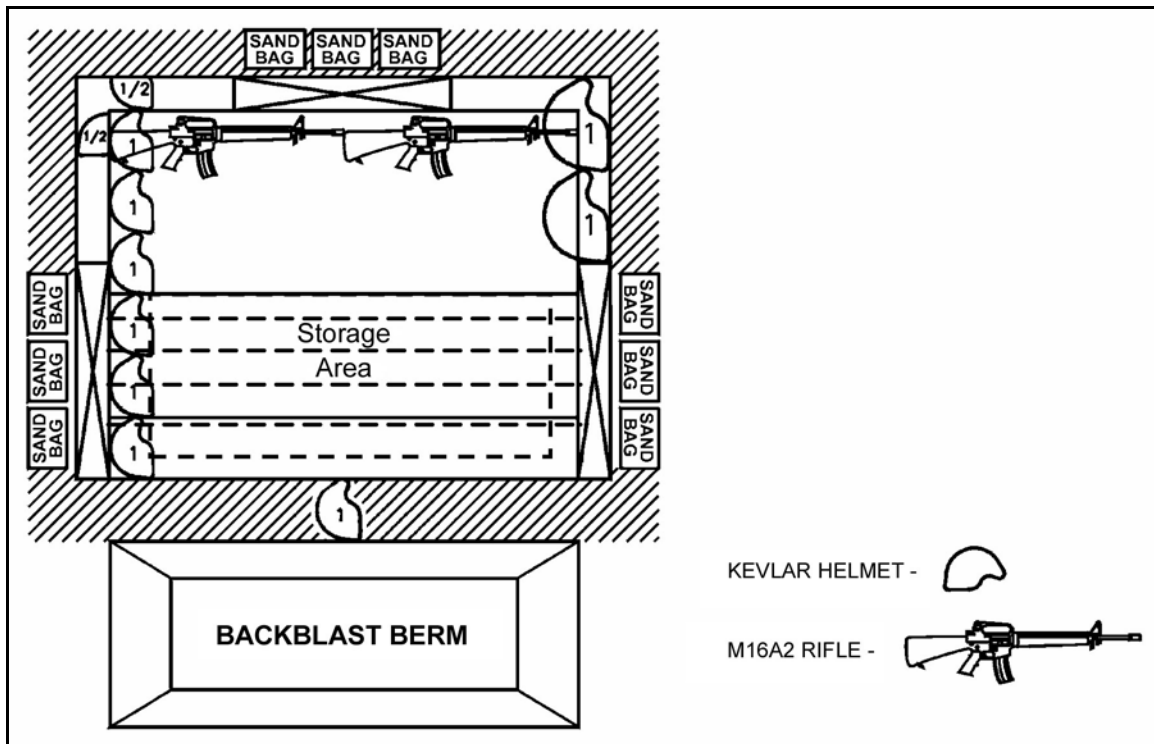

Figure 4-17. Top view of a Javelin defensive fighting position.
(3) *Top View.* Figure 4-17 shows the top view of a Javelin defensive fighting position.